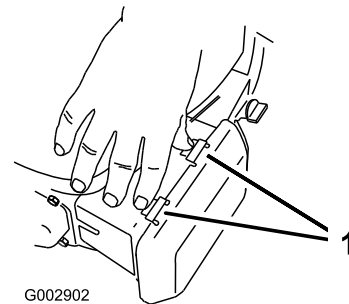

Figure 39
1. Press down on the latch tabs on top of the air cleaner cover (Figure 39).